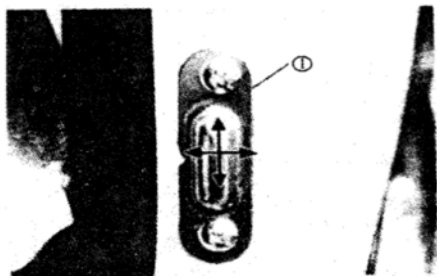

Fig. 4.1-31
- 4) Regulate rer side slide stop block and screw the screw. See fig. 4.1-31.